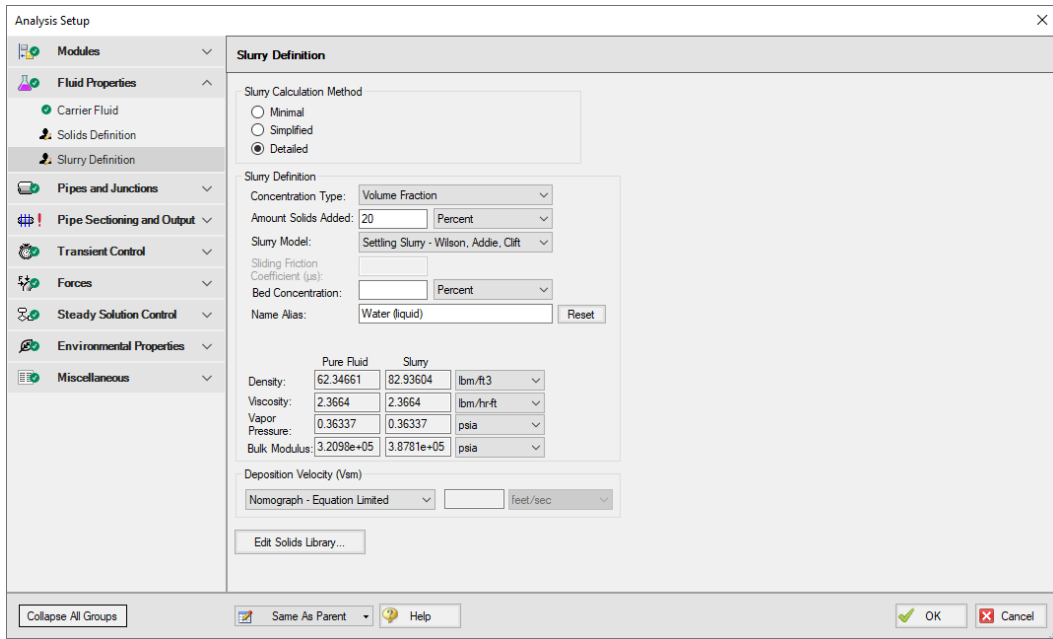

Figure 6.2 Completed Slurry Definition panel
1. Go to the Slurry Definition panel (Figure 6.2)